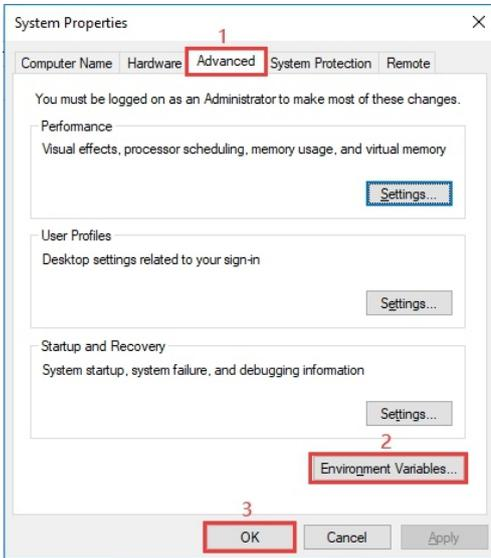
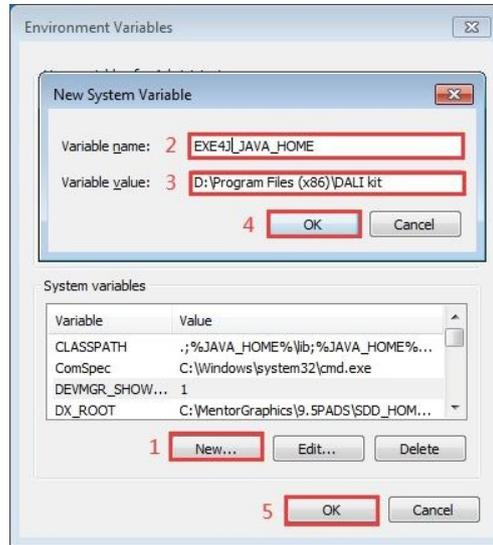

Figure 7 System Properties Window
Figure 8 Environment Variables Setting Window
Step 1: right click the computer icon on the desktop, select "Properties", then "Advanced system settings" to open the system properties setting window as shown in Figure 7:
Step 2: switch to "Advanced" tab, then click button "Environment Variables" to open the environment variables setting window as shown in Figure 8:
Step 3: Click "New" button, the parameter setting window will pop-up, Variable name must be set as "EXE4J_JAVA_HOME", Variable value should be set as the installation path of the software (the parameter in Figure 8 is just for your reference), then click "OK" one by one to go back to the window in Figure 7, then click "OK" to save the environment variables setting.